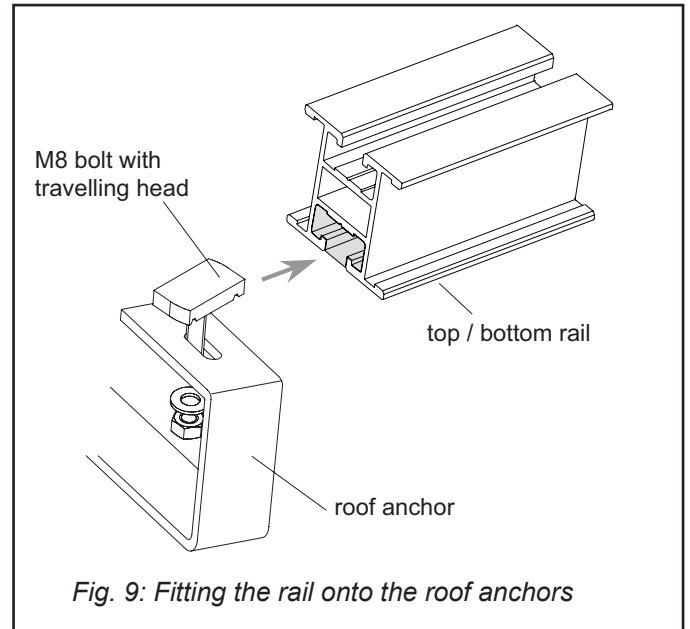

Fig. 9: Fitting the rail onto the roof anchors
- Align the travelling screw head (Fig. 9) with the horizontal rail and shift the rail onto it, or shift the screws into the rail first and fasten to the anchors. Use serrated lock washers to fit the nuts.